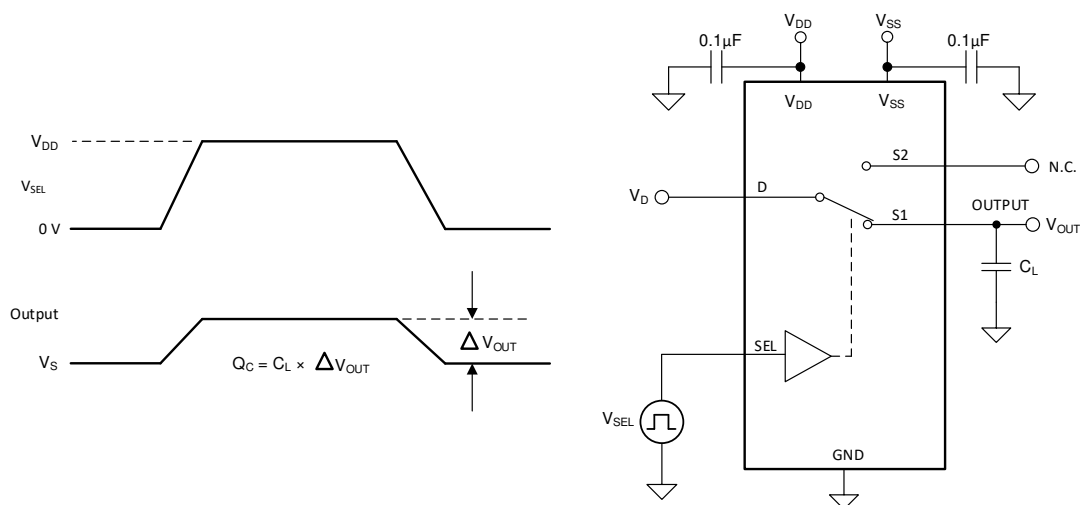

图 21. Charge-Injection Measurement Setup
The TMUX1119 has a transmission-gate topology. Any mismatch in capacitance between the NMOS and PMOS transistors results in a charge injected into the source or drain of the device during the falling or rising edge of the gate signal. The amount of charge injected into the source or drain of the device is known as charge injection, and is denoted by the symbol Q_C . 图 21 shows the setup used to measure charge injection from Drain (D) to Source (Sx).